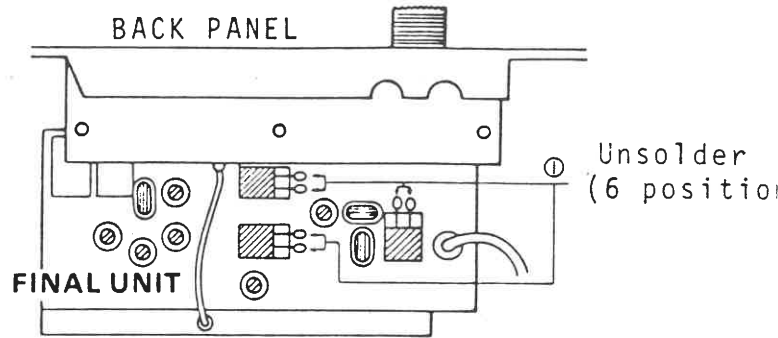

Fig. 9
- 1) Unsolder 6 wires on TR-----Fig 9